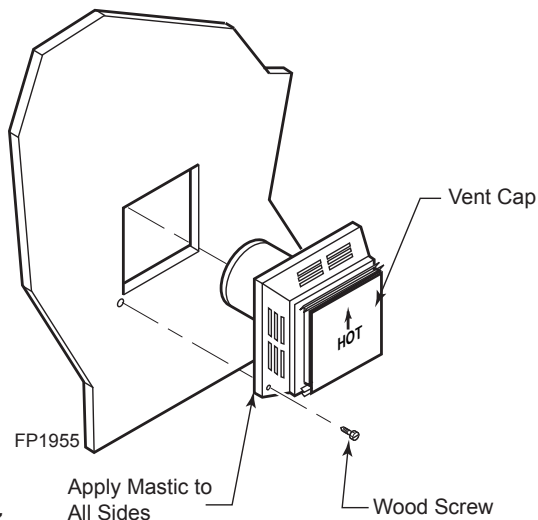

Figure 17 -
- Apply a bead of non-hardening mastic around the outside edge of vent cap. Position the vent cap in the center of hole on the exterior wall with the word "UP" on the vent cap facing up. Insure proper clearance of 1" to combustibles is maintained. Attach the vent cap with four wood screws supplied. *Figure 17*
1. Establish vent hole through the wall. Page 16, *Figure 17*.